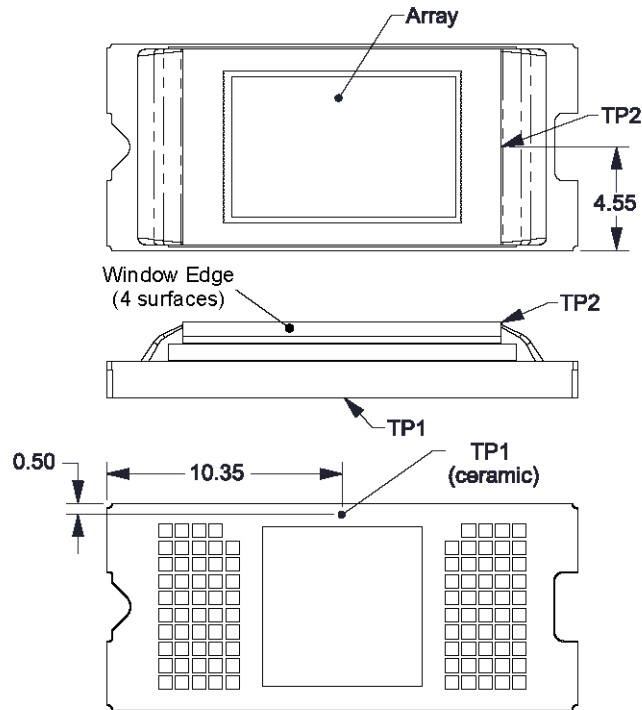

图 8-3. Thermal Test Point Location - FQD Package
The DMD is designed to conduct the absorbed and dissipated heat back to the package where it can be removed by an appropriate thermal management system. The thermal management system must be capable of maintaining the package within the specified operational temperatures at the Thermal test point location, see 图 8-3. The total heat load on the DMD is typically driven by the incident light absorbed by the active area; although other contributions can include light energy absorbed by the window aperture, electrical power dissipation of the array, and/or parasitic heating.
The temperature of the DMD case can be measured directly. For consistency, a thermal test point location TP1 representing the case temperature is defined as shown in and 图 8-3.
- Thermal test point location (see or 图 8-3)